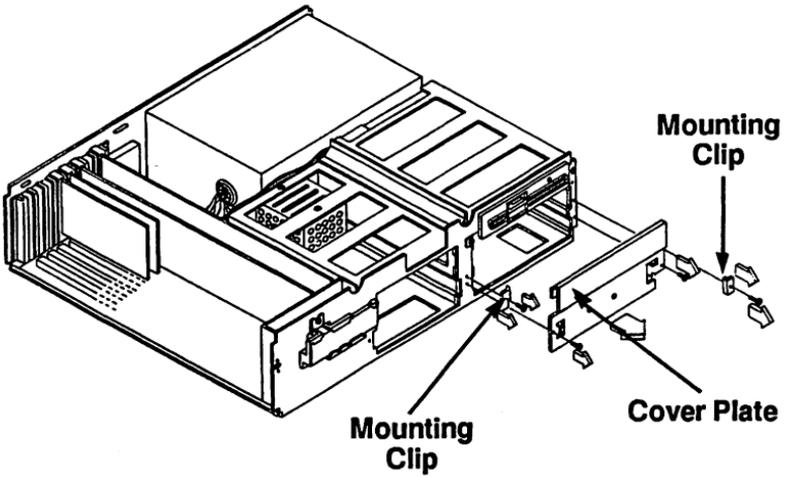

Figure 3. Removing the Cover Plate
1. Remove mounting clips 1 and 2 and the IBM cover plate, as shown in Figure 3. You will use these mounting clips later to secure the drive to the computer.